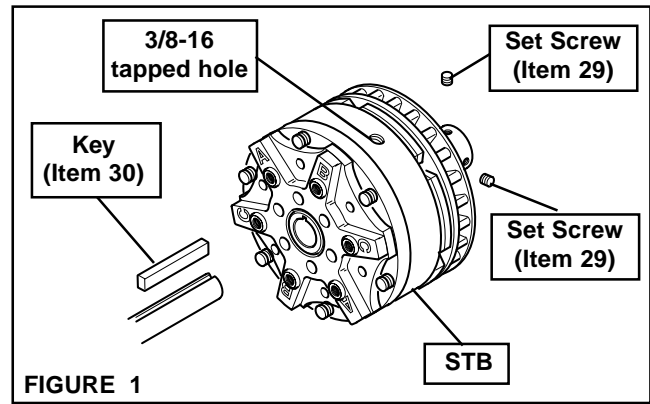

FIGURE 1
1. Insert the Nexen supplied Key (Item 30) into the shaft and slide the STB onto the shaft (See Figure 1).
2. Install and tighten the two Nexen supplied Set Screws (Item 29) (See Figure 1).
Two 3/8-16 tapped holes at 180° are provided in the Piston Guide for securing the STB to the machine frame (See Figure 1).